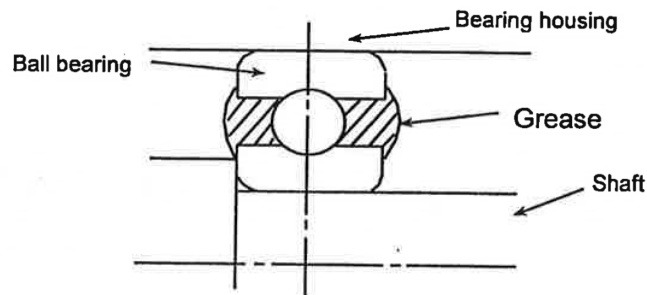

Fig. 5.2
- (1) While the pump is operating, open the grease outlet below the bearing.
- (2) Grease is supplied through the grease nipple on the top of the bearing housing with a grease gun. The required quantity of grease per bearing is the quantity shown in Table 5.2.
- (3) Overhaul the bearing every two years, and replace the old grease. In this case, charge each ball of bearings (as shown in Fig.5.2) with grease charging amount shown in Table 5.2.